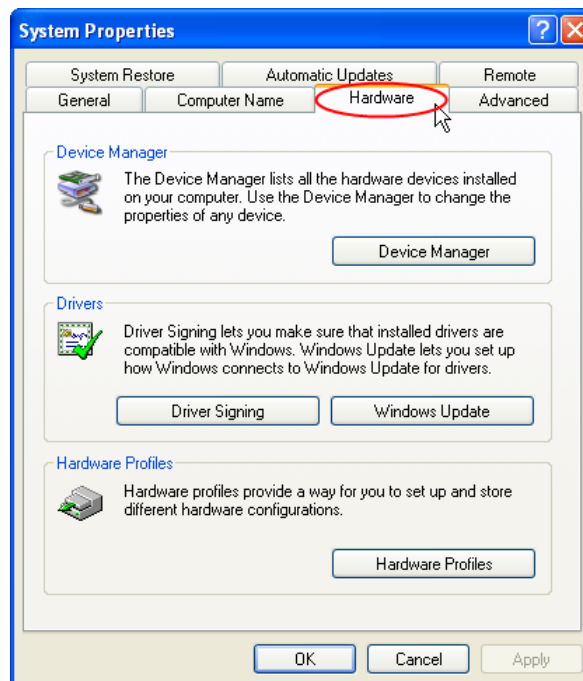

Figure 60
- b. Open **Properties** page and click **Hardware** tab, the hardware information of your computer will be showed as Figure 60